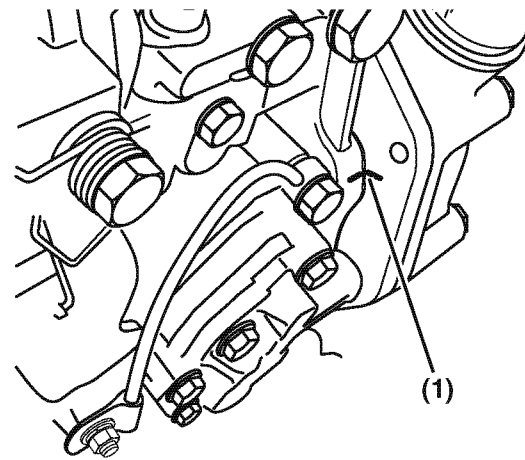

Figure 7-27
- Align the reference marks (Figure 7-27, (1)) previously made on both the fuel injection pump mounting flange and gear case or front plate.